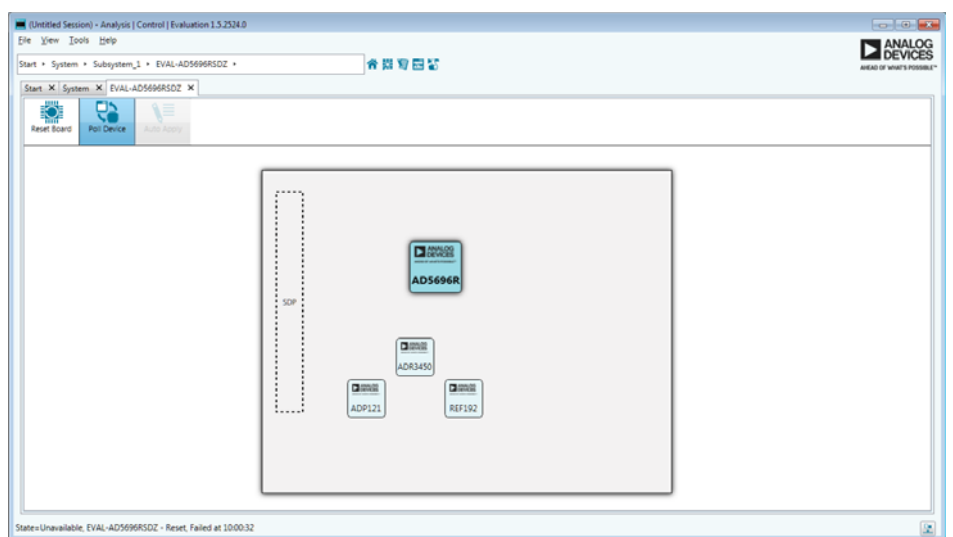

Figure 2. Board View of the EVAL-AD5696RSDZ
3. Double click the board plug in to open the board view shown in Figure 2.